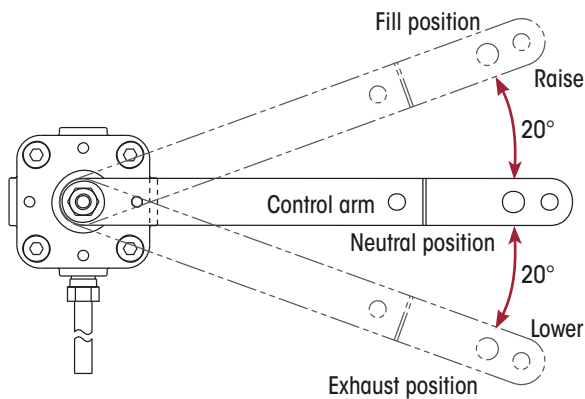

Figure 188: Ride Height Adjustment
9. Remove wooden pin and confirm the height control valve is properly installed by raising the control arm approximately 20 degrees above horizontal. (Refer Figure 188.) Air pressure should begin inflating the air springs. If the air springs do not inflate:
10. If the HCV correctly inflates the air springs, rotate the control arm downwards approximately 20 degrees below horizontal. (Refer Figure 188.) Verify that air is flowing through the exhaust port of the HCV and that the air springs are deflating.